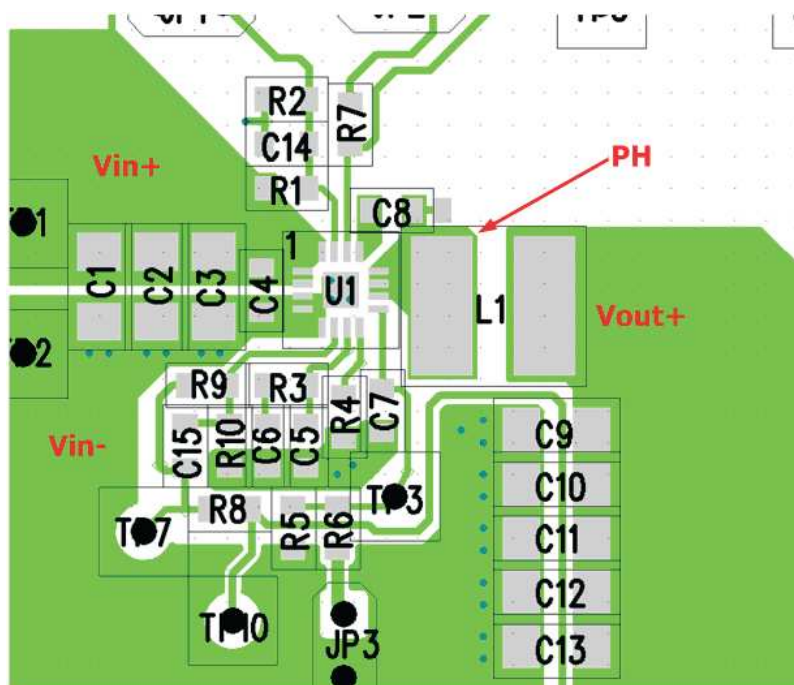

Figure 48. TPS54678 Layout Example
- Minimize the loop area formed by the bypass capacitor connections and the VIN pins. See Figure 48 for a PCB layout example.
- The sensitive analog ground connections for the feedback voltage divider, compensation components, soft-start capacitor and frequency set resistor should be connected to a separate analog ground trace as shown in Figure 48.